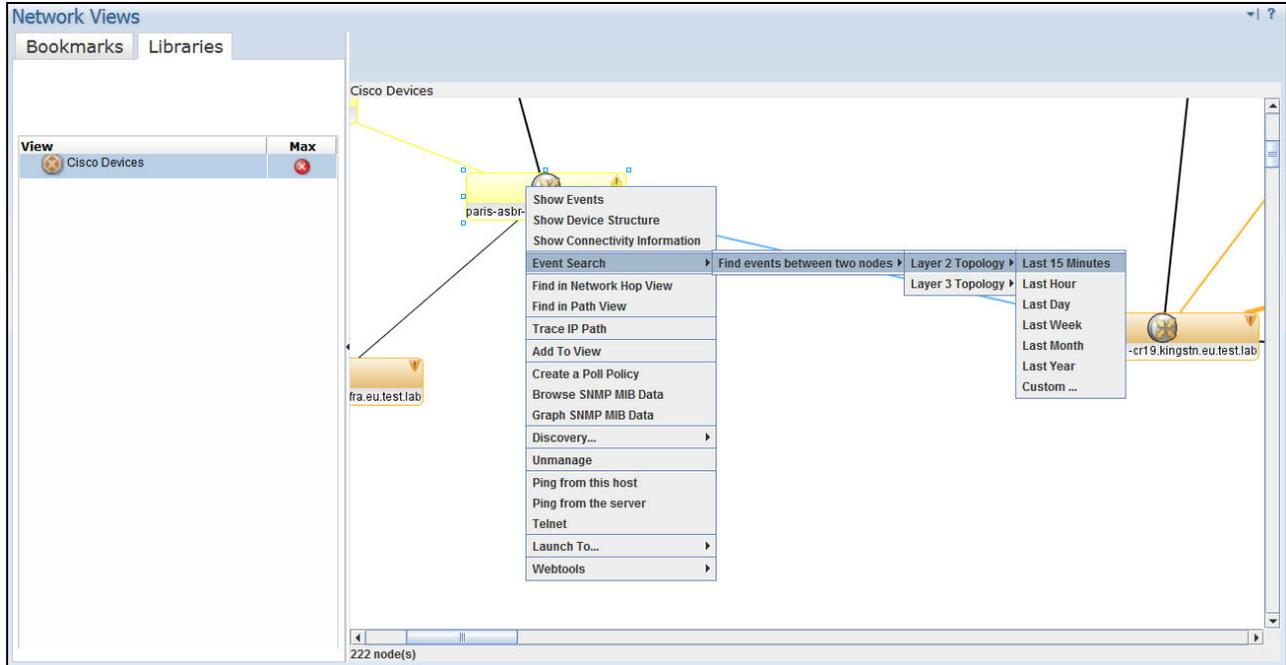

Figure 5-4 Find events between two nodes
- Tom right-clicks one of selected devices and chooses **Event Search** → **Find events between two nodes** → **Layer 2 topology** → **Last 15 minutes**, as shown in Figure 5-4.